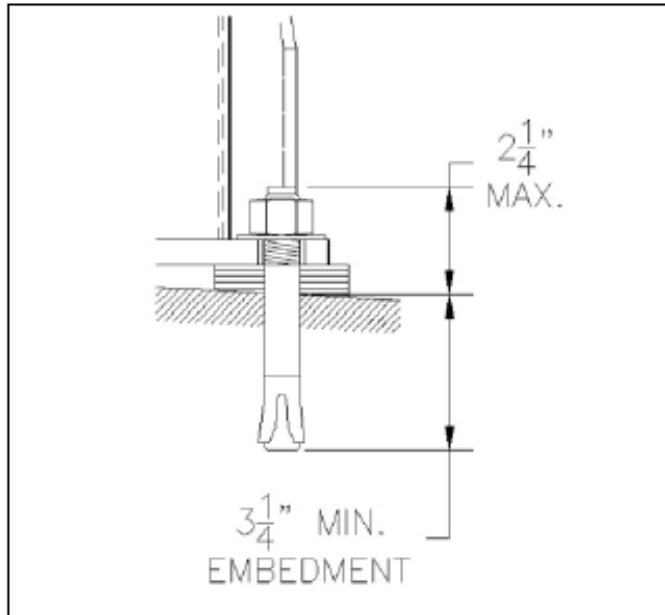

Figure 30: Embedment
8. Check the distance from the top of the anchor to the floor. If this dimension exceeds 2 1/4" due to floor slope, **DO NOT** use the supplied anchors. Longer anchor must be used. See **Figure 30**.
NOTE: The 3/4" × 5 1/2" lg. wedge anchor bolts supplied must have a minimum embedment of 3 1/4" into concrete floor (see **Figure 30**).